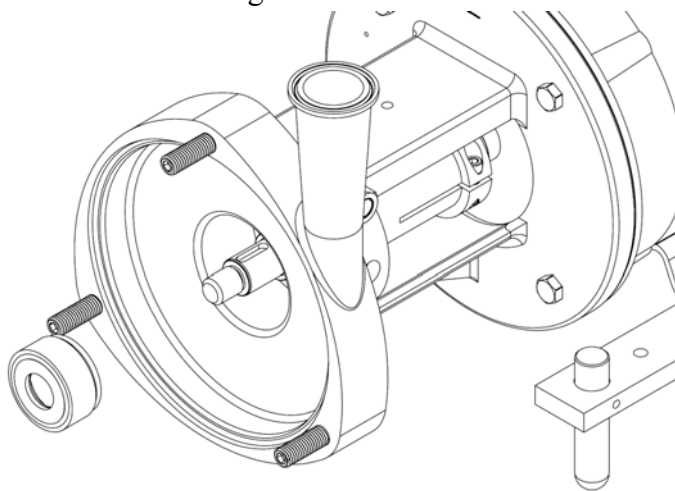

Figure 5
7. The rotating seal, o-ring and spring will come out as a single component, figure 5.